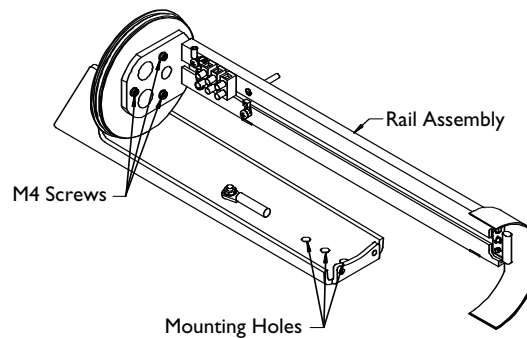

FIGURE 3 Mounting the Base Assembly
4. Attach the housing to an appropriate mount or pan/tilt. Use the instructions provided with the mount or pan/tilt. The base assembly has three clearance holes for mounting. Use three M6 screws and nuts or three 1/4in. screws and nuts (not provided). Lock washers are required (not provided). Rotating the rail assembly will allow access to the mounting holes. This can be accomplished by loosening the three M4 screws. See also *Camera/Lens Orientation*. It will be easier to mount the base before installing the camera, but it may be mounted anytime during the installation process. See FIGURE 3.